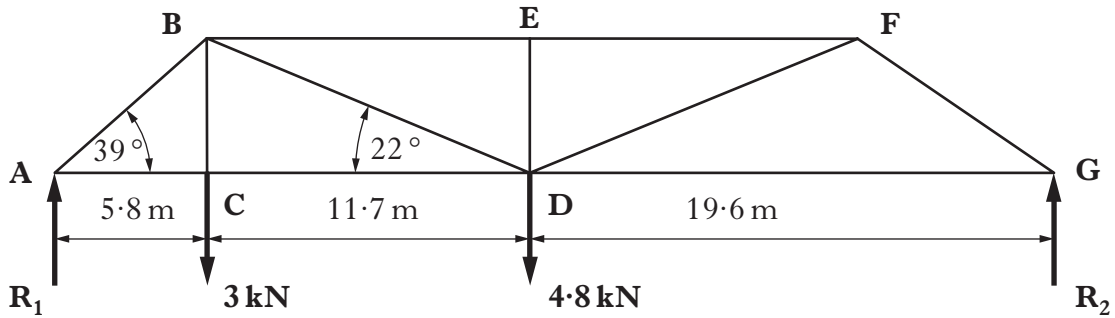

Figure Q9(a)
9. A gantry carrying an overhead road sign is loaded as shown in Figure Q9(a).
For the loading conditions shown in Figure Q9(a):